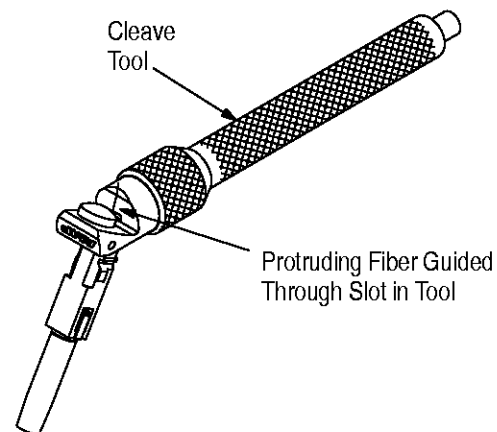

Figure 11
5. CLEAVING THE FIBER (Figure 11)
1. Insert plug assembly into the cleave tool so that the protruding fiber is guided through the slot in the tool. See Figure 11.